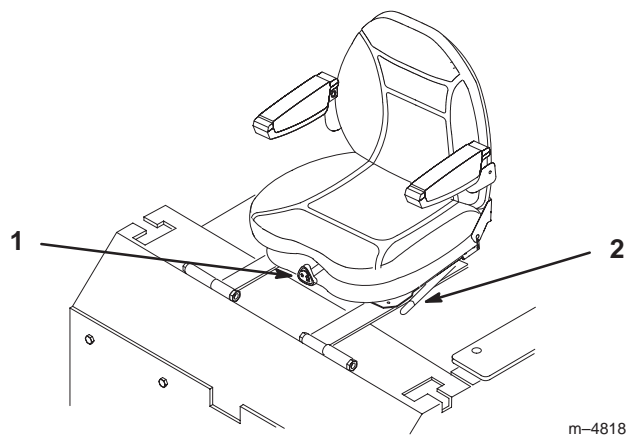

Figure 22
1. To adjust, move the lever sideways to unlock seat (Fig. 22).
1. To adjust, turn the knob in front either direction to provide the best comfort (Fig. 22).